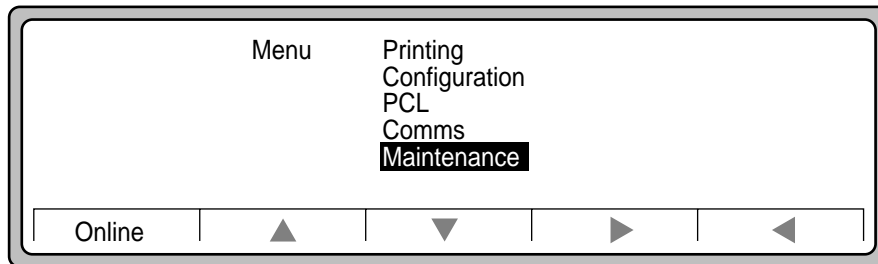

Figure 4-9 Maintenance
2. Use ▼ to highlight Maintenance, as shown in Figure 4-9.